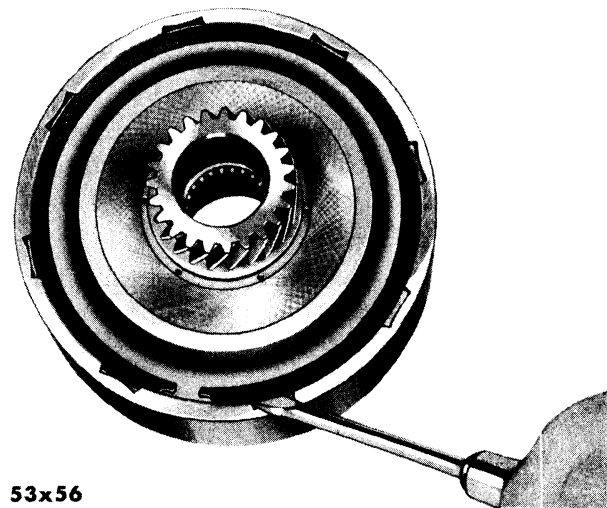

Fig. 83—Removal and Installation of Kickdown Sun Gear Snap Ring
- (1) Using a screwdriver, remove the kickdown sun gear snap ring. (Fig. 83.) Snap ring is a select fit. Identify to aid in assembly.